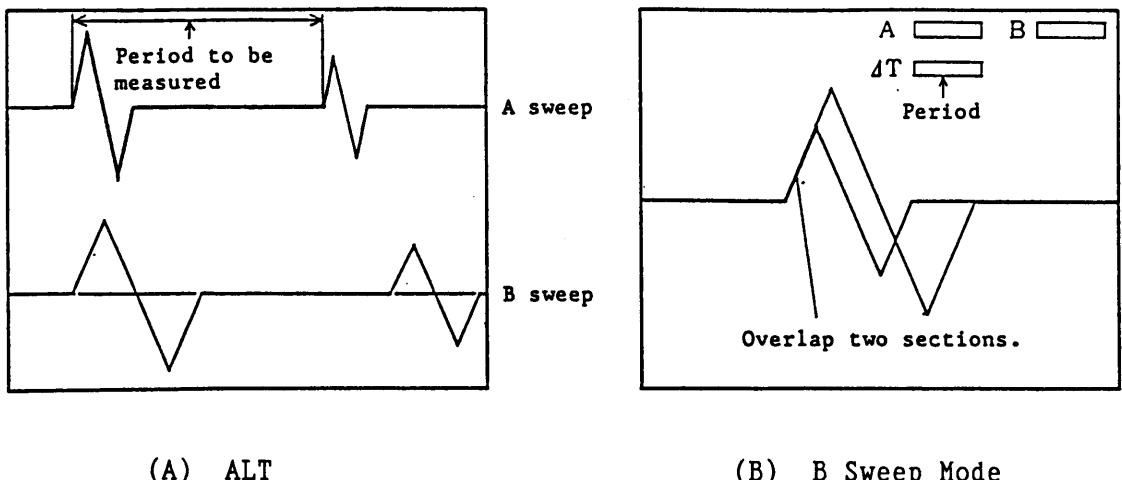

Figure 4-8. Time Interval (Period) Measurement with Delayed Sweep
- 2) Set the HORIZ MODE ⑩ to ALT. Operate sweep in the continuous delay mode by releasing from the B TRIG mode.
- 3) Set the CURSOR SW ⑪ to AT. An A-sweep waveform with two intensity modulated sections and a B-sweep waveform with sections representing the same intensity-modulated sections but with delayed timings will appear on the CRT. (See Figure 4-8 A.)
- 4) With the RREADOUT control ⑬, move the two intensity-modulated sections to the positions between which the time interval is to be measure. It also is possible to move the two intensity-modulated sections in a tracking mode keeping the distance between them unaltered.
- 5) Pull out the A, B TIME/DIV ⑯ and set the B sweep time for more fine viewing of the measuring points on the delayed B sweep. Now you may set the HORIZ MODE ⑩ to the B sweep mode so that the B-sweep waveform alone is displayed. When in the B sweep mode, you may employ the 10 MAG functon.
- 6) By adjusting the READOUT control ⑬, overlap the two measuring points on the B sweep waveform. (See Figure 4-8 B.)